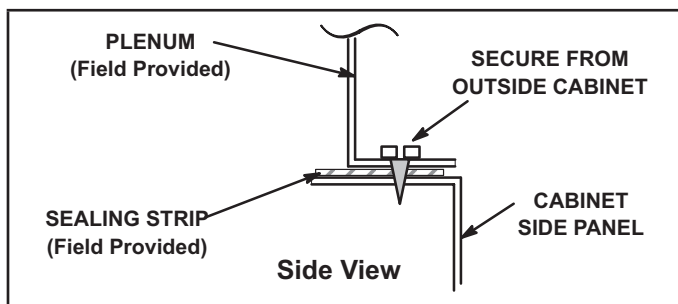

FIGURE 11
- 1 - Bottom edge of plenum should be flanged with a hemmed edge (See figure 11 or 12).